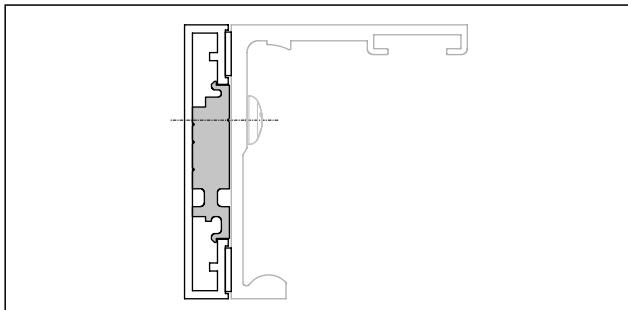
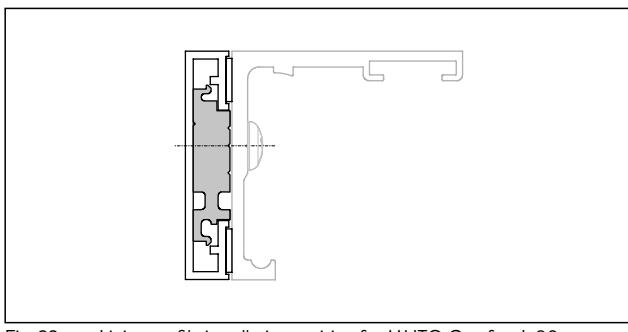

Fig. 21 Lining profile installation position for MUTO Premium XL80/I50, Self-Closing 120 and Telescopic 80
Fig. 22 Lining profile installation position for MUTO Comfort L 80
- Depending on the MUTO sliding door system, insert the lining profile into the counter profile from the side (Fig. 21, Fig. 22 or Fig. 12).